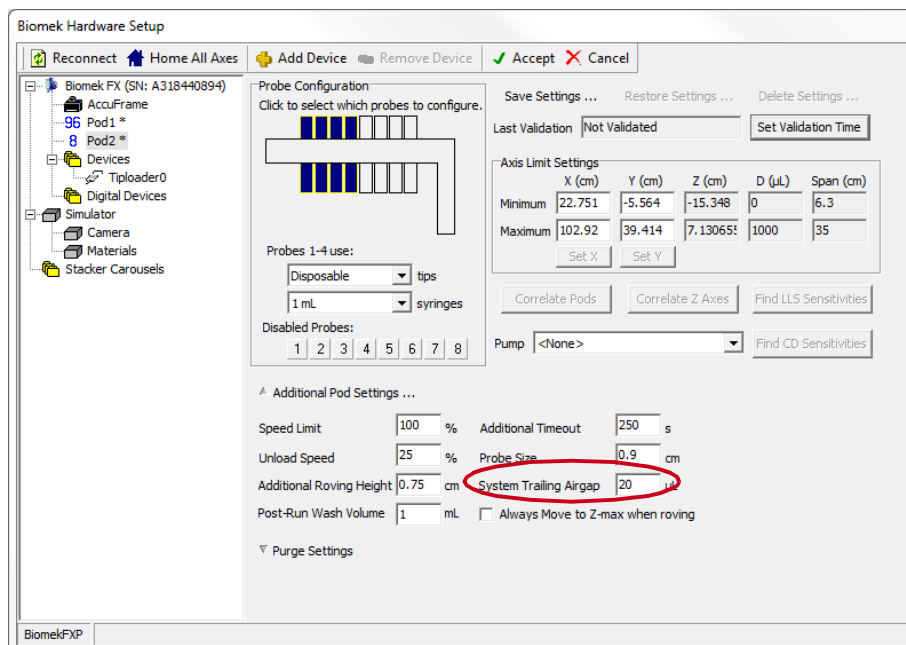

Figure 2 Hardware setup changes for Span-8 Pod2
- Pod 2 (Span-8) settings: Set System Trailing Airgap to 20 µL (Figure 2)